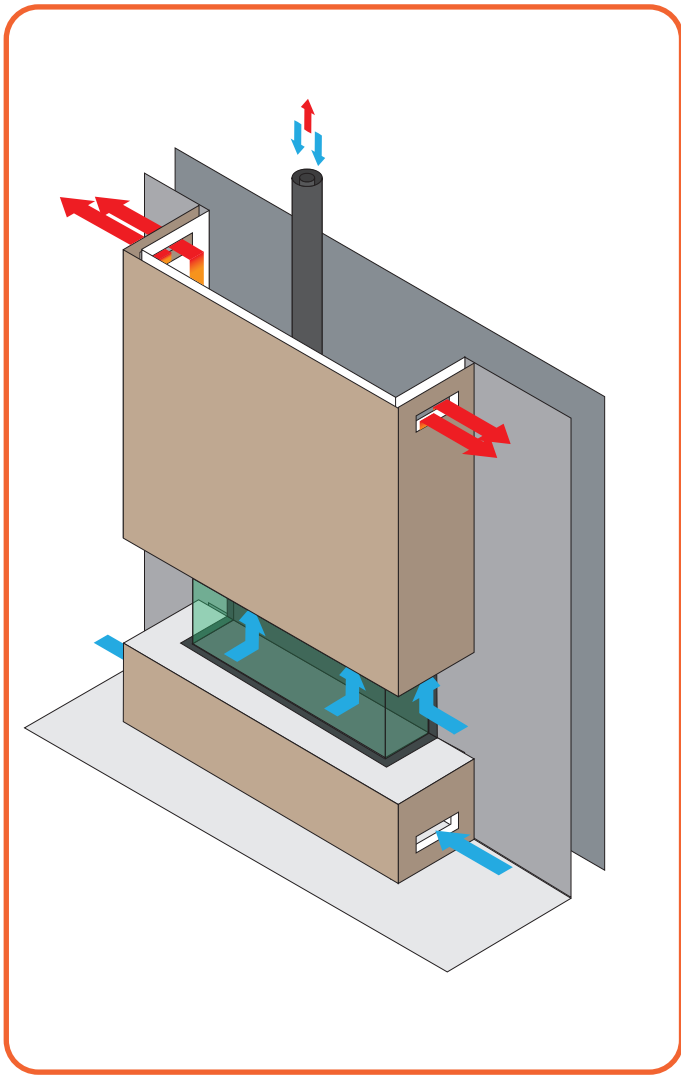

Figure 6.4 - Combustible material enclosure
6.4.4 Assembly regulations for combustible materials (Figure 6.4)